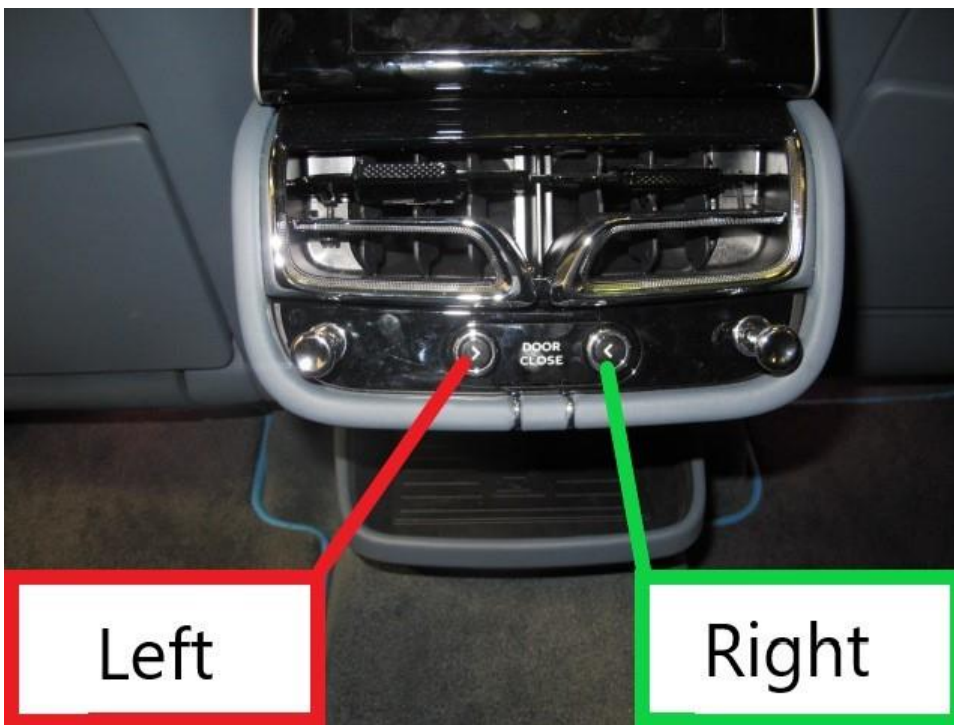

Figure 9
- Referring to Figure 9 - Press and hold the left DOOR CLOSE button
- Referring to Figure 9 - Press and hold the right DOOR CLOSE button Check the RHR door fully closes and latches (including soft close operation) without the requirement to press the button a second time